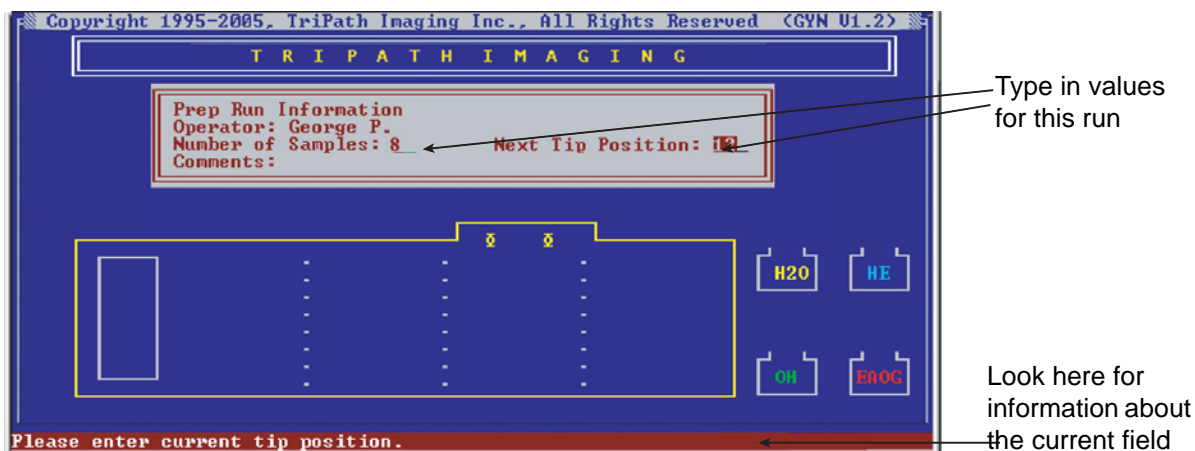

Figure 5-4 PrepStain Run Information screen
3. Select **Slide Preparation and Staining**, and then press **Enter**. The PrepStain Run Information screen (illustrated in *Figure 5-4*) is displayed.